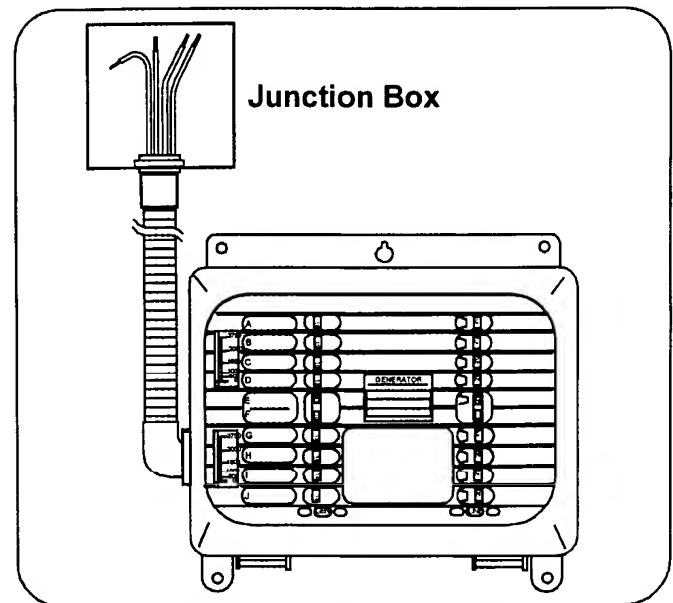

Figure 4. Junction Box Mounting
1. Route the flexible conduit on the left side of the manual transfer switch to the desired location to mount a junction box. Refer to Figure 4.